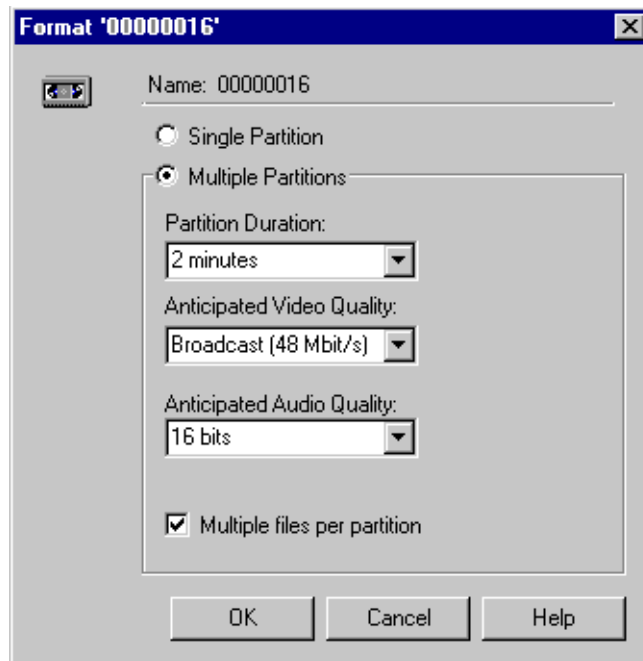
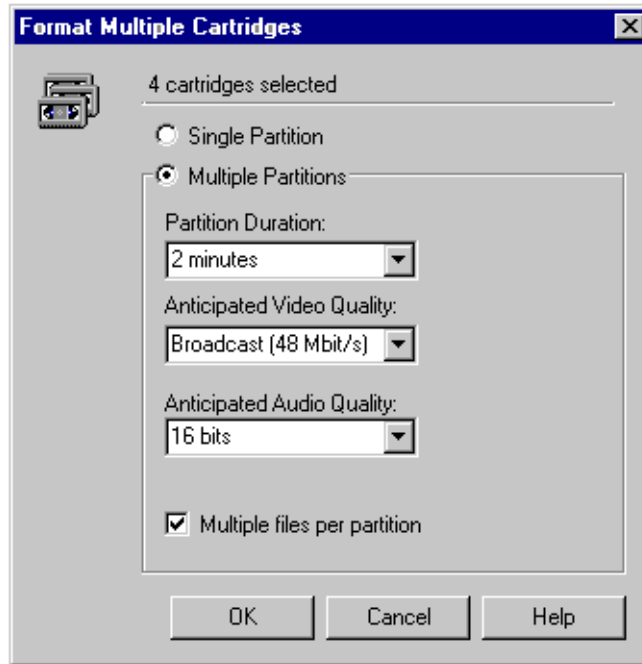

Figure 68. Format Cartridge dialog box
Figure 69. Format Cartridge dialog box
2. Choose **Format** from the **File** menu or from the shortcut menu with a right-click. The Format dialog box appears (see Figure 68). The Name field shows the name or names of the cartridges to be formatted. If more than one cartridge is selected, the number of cartridges is shown (see Figure 69).